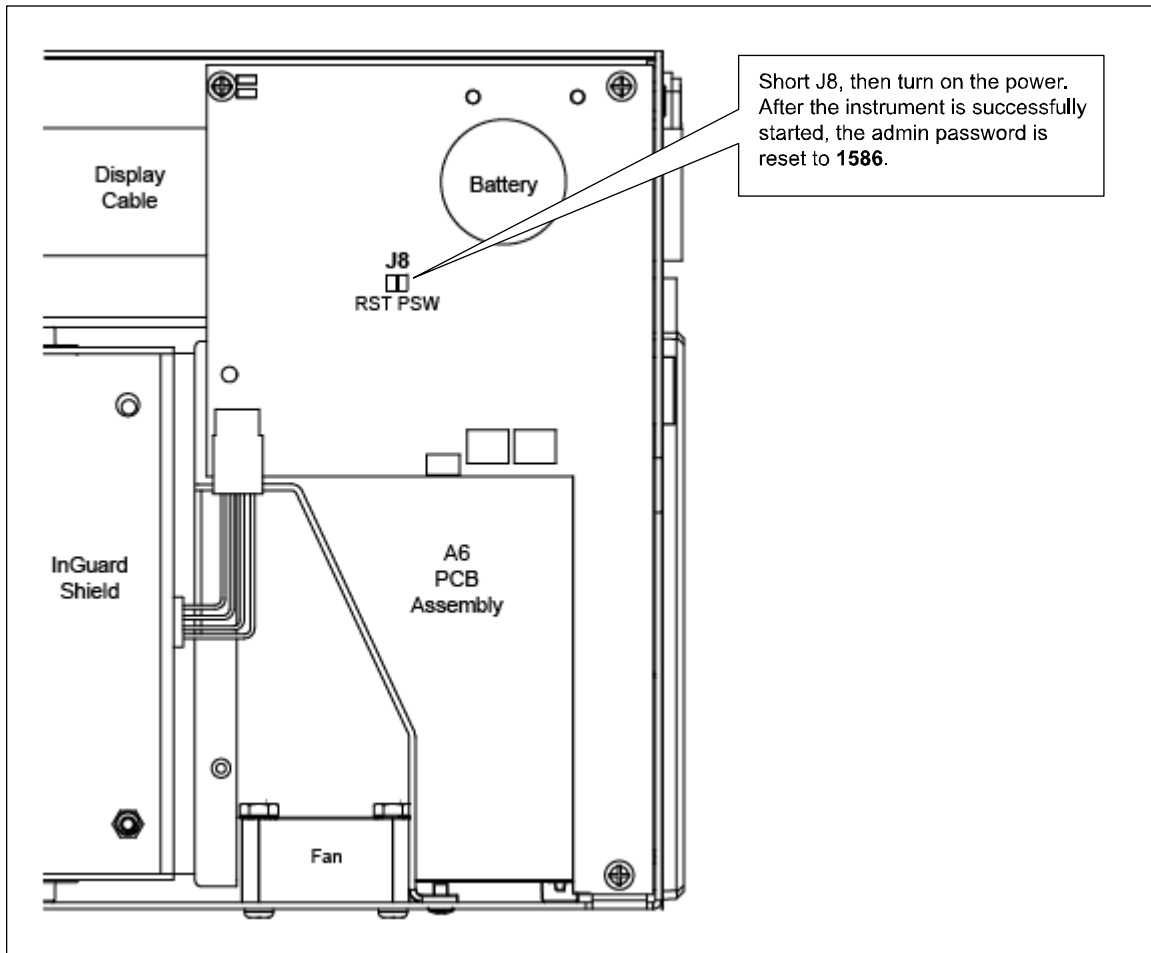

Figure 7. Password Reset Jumper
2. Connect a jumper across J8, as shown in Figure 7.